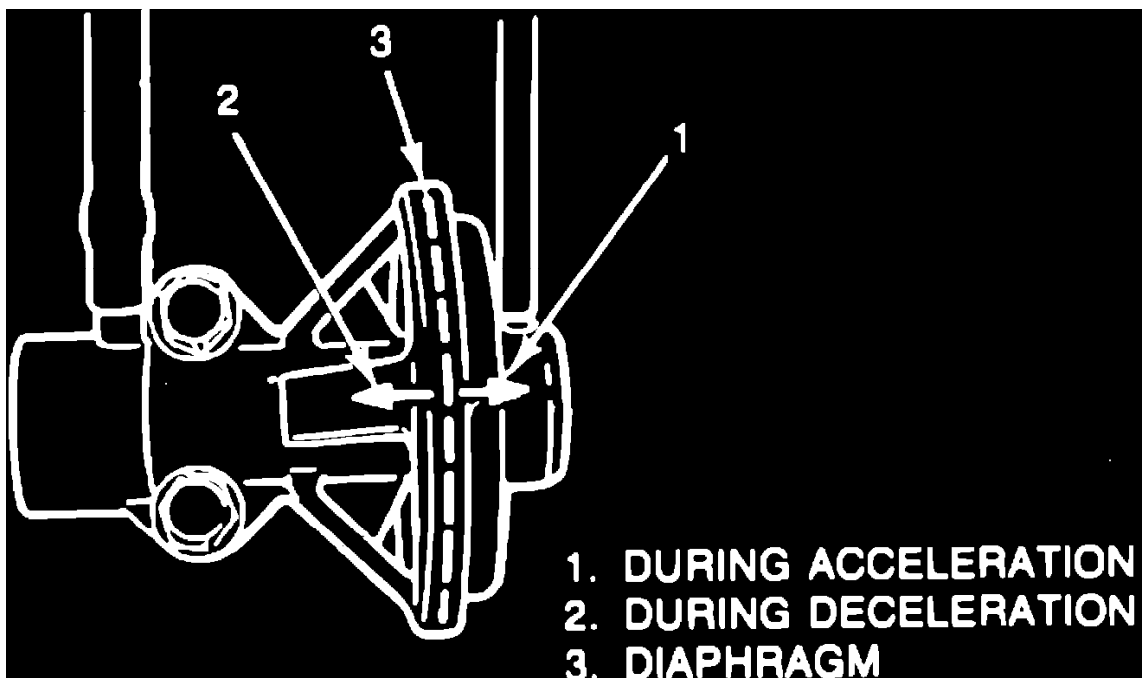

Fig. 13 Checking movement of EGR valve diaphragm
2. Allow engine to reach normal operating temperature. Race engine and check that diaphragm moves toward 1, **Fig. 13**, during acceleration and toward 2 during deceleration.